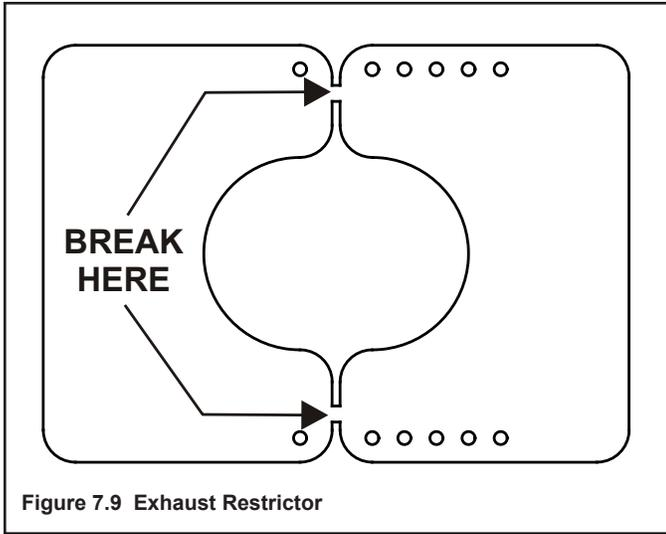

Figure 7.9 Exhaust Restrictor
- Break the exhaust restrictor into two pieces. Do this by bending the part back and forth until it breaks (see Figure 7.9).